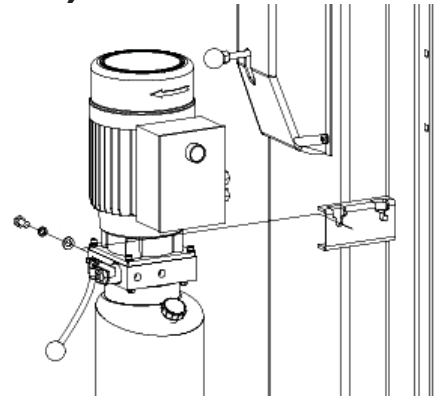

Figure 24
7.12 Installation Of Power Unit (Ref. Fig. 24)